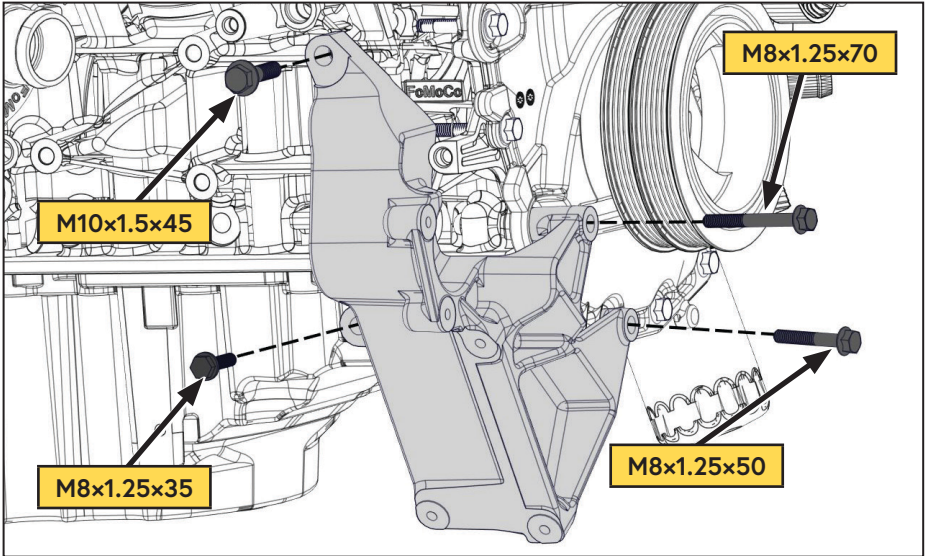

Figure 19 — Install main bracket
- Using the supplied fasteners, mount the main bracket onto the engine (Figure 19).